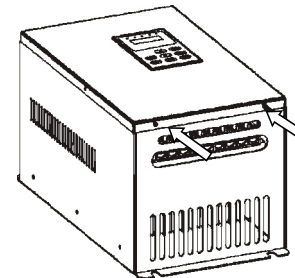
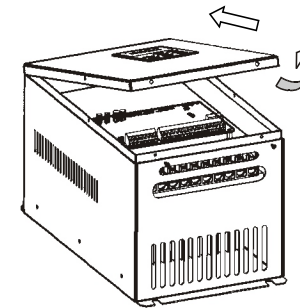

Fig. 3-6 Diagram of dismantling the upper cover of the inverter Model B
Fig. 3-7 Diagram of dismantling the upper cover of the inverter Model B
Unscrew two screws of the lower part of the inverter (as shown in Figure 3-6 where the arrow points), stretch upward for 30~70mm (as shown in Figure 3-7), then push forward to open the upper cover of the inverter.
Step 1. Open the upper cover of the inverter (as shown in Figure 3-6 and Figure 3-7).